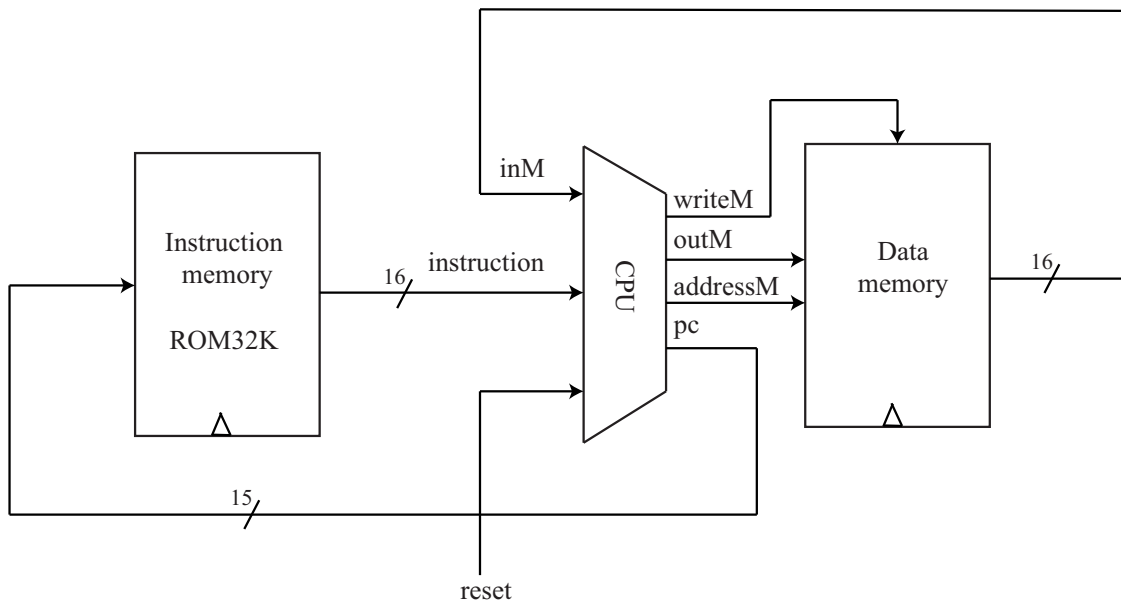

Fig. 3: Top-level design of the Hack computer.
3. **(10 points)** Using the supplied `Computer.hdl` file as a starting point, compose the topmost computer chip with the memory and CPU chips developed earlier. Use the built-in ROM32K chip for instruction memory. The blueprint is shown in Fig. 3.